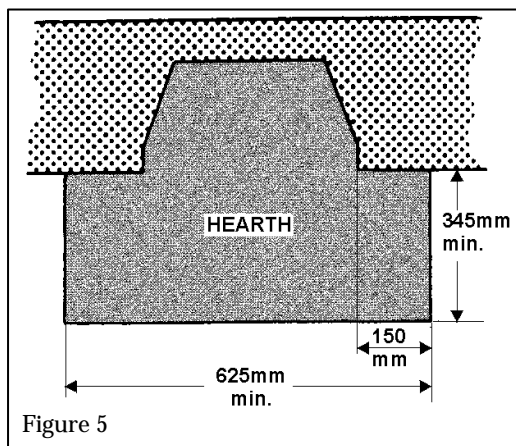

Figure 5
**2.12** The appliance must be mounted behind a non-combustible hearth with minimum dimensions as figure 5. (n.b conglomerate marble hearths are considered as non-combustible). The appliance can be fitted to a purpose made proprietary class “ O” 150°C surround. The hearth material must be at least 12mm thick. The periphery of the hearth (or fender) should be at least 50mm above floor level to discourage the placing of carpets or rugs over it.